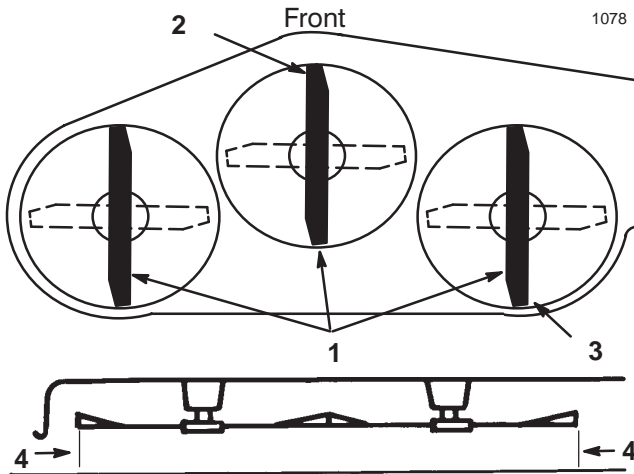

Figure 41
5. Set the height-of-cut at 3 in. (76 mm) and carefully rotate the blades so they are facing front to rear (Fig. 41).
6. Measure between the tip of the front blade (Fig. 41) and the tip of the rear blade to the flat surface. If the front blade tip is not 1/16–5/16 in. (1.6–7.9 mm) lower than the rear blade tip, adjust the front trunnion rods.
9. After adjusting both trunnion rod yokes evenly, secure the yokes with the hairpin cotters. Check the front-to-rear level again. Continue adjusting the yokes until the front blade tip is 1/16–5/16 in. (1.6–7.9 mm) lower than the rear blade tip (Fig. 41).